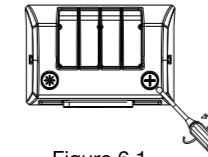
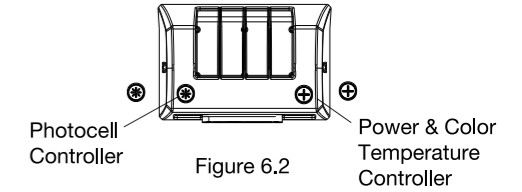

Figure 6.1
Figure 6.2
STEP 2: (Figure 6.1), then slide the switch up and down to adjust the power controller, CCT controller or photocell controller in your demand. (Figure 6.2)